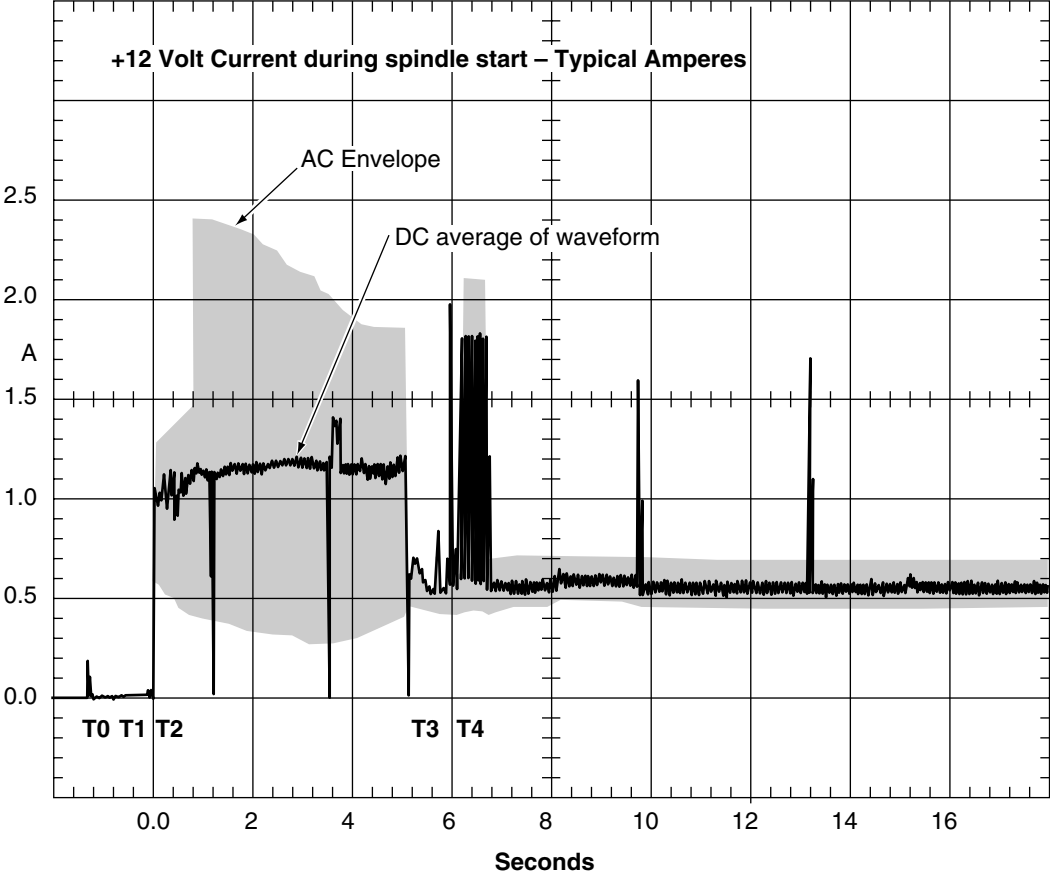

Figure 3. Typical ST318451 drive +12 V current profile
- [3] See +12 V current profile in Figure 3.
Figure 3 identifies the drive +12 V current profile. The current during the various times is as shown: